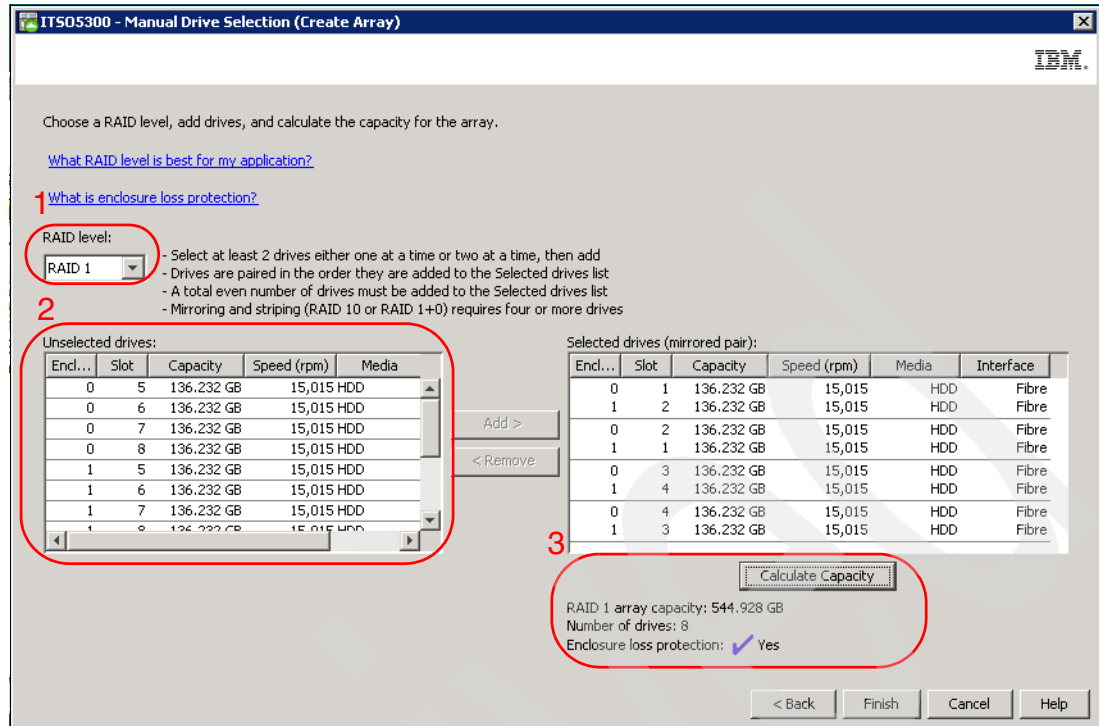

Figure 3-9 Manual configuration for enclosure loss protection
When using the manual method, we can create an array as follows (Figure 3-9).
2. Select the drives that you want to assign to the arrays. Ensure that the drives are staggered between the enclosures so that the drives are evenly distributed on the loops. No matter your RAID level, attempt to use drives from separate enclosures, to optimize performance, and to provide enclosure loss protection if possible. In Figure 3-9, we have selected each mirrored pair of disks of our RAID10 in separate enclosures, and in crossed slots. You can see that each pair mirror relation uses both controller paths.
3. Click **Calculate Capacity** to proceed, after selecting the drives. When enclosure loss protection is achieved, then a checkmark and the word *Yes* will appear in the bottom right side of the window, otherwise, it will have a circle with a line through it and the word *No*. After you are satisfied that capacity and protection have been obtained, click **Finish** to create the array. See Figure 3-9 on page 69.
When you have completed setting your values as desired in Figure 3-9 on page 69 (either default or custom), click **Next** to complete the creation of the logical drive.